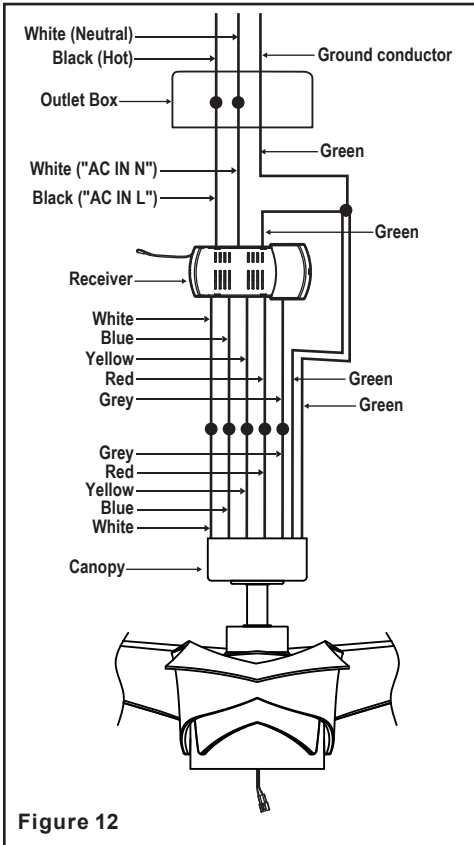

Figure 12
Step 2. Make wire connections from the fan to the receiver. (Fig. 12)
Step 3. Make wire connections from the receiver to the outlet box. (Fig. 12)